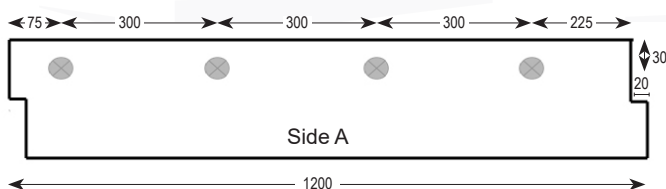

Fig. 1
1. Attach the anchoring springs to the upper part of the VEDAFEU FB[®] filler board on Side A according to the fig. 1.